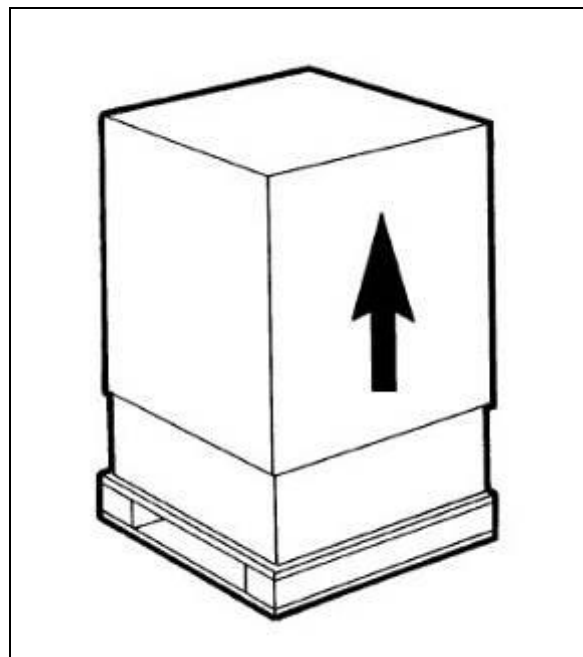

Fig. 13
- a) Remove the packing (fig.13), preserve it in order to reuse for winter storage and make sure the machine is in perfect condition.